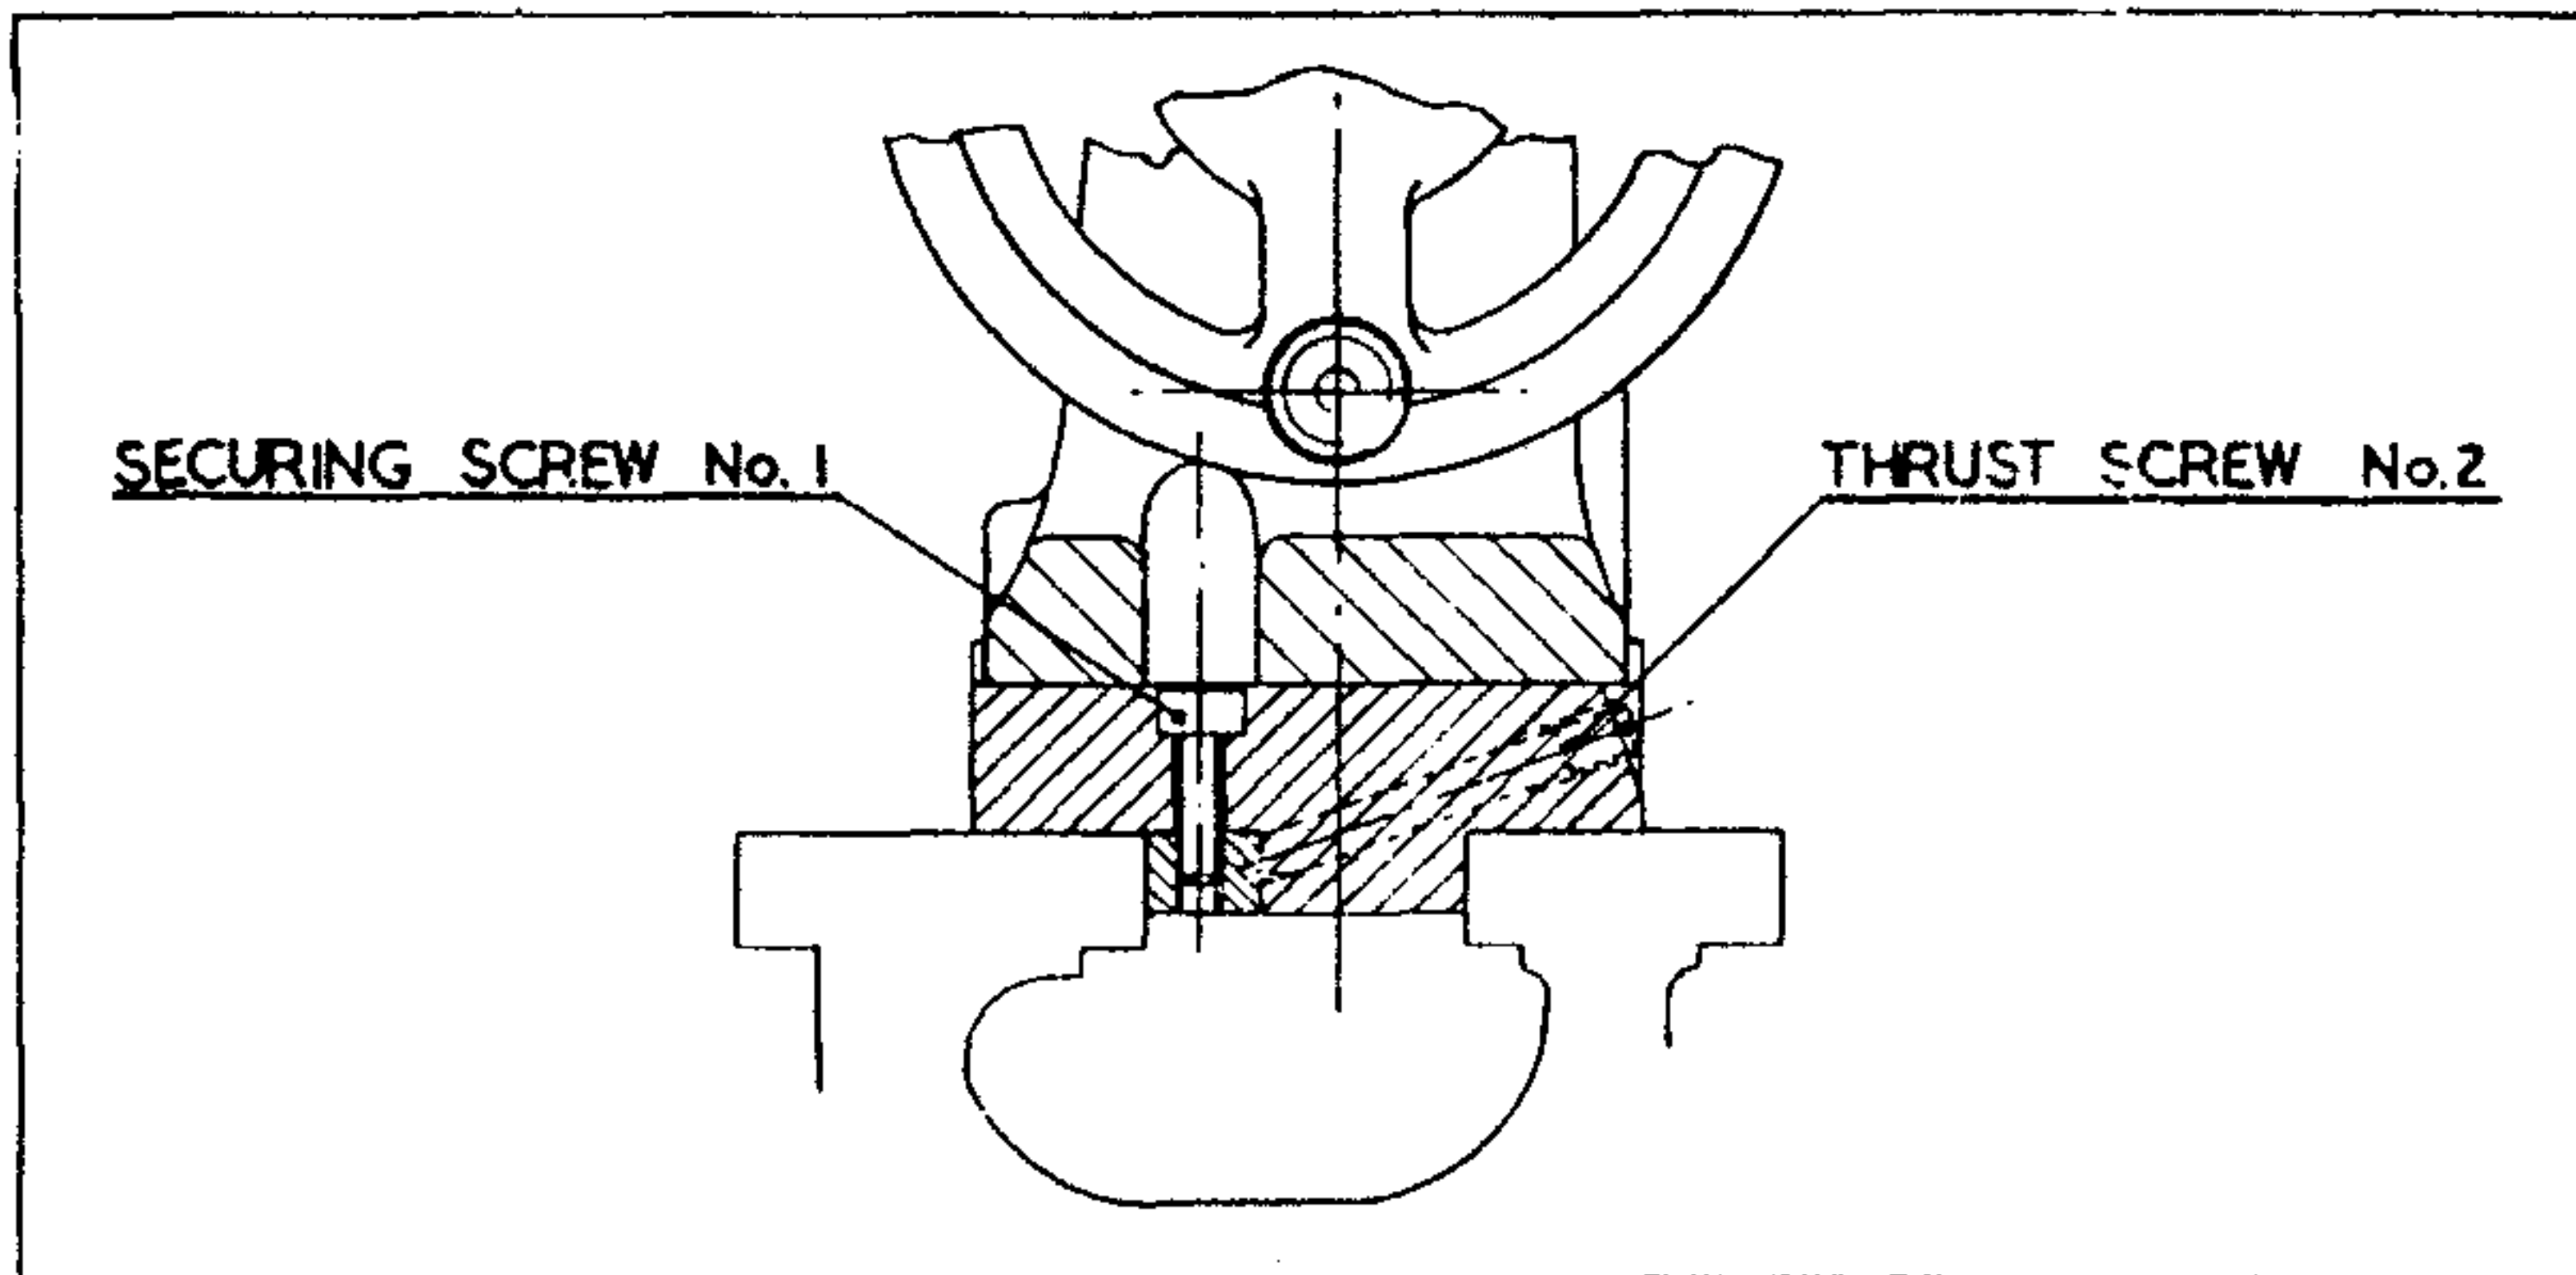

Fig. 45.
Refer to Fig. 45. Release gib securing screws (1) and retighten until just nipped.